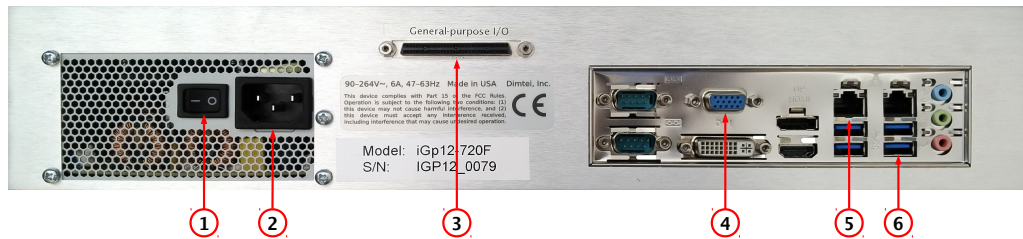

Figure 4: Rear panel features
6. Connect a USB keyboard (Fig. 4, item 4);
7. Connect a video monitor (Fig. 4, item 5);
Setup program is included in the IOC for configuring the important features of the iGp12-372F. The program can be executed locally or remotely. For local execution one must first connect a keyboard (Fig. 4, item 4) and a video monitor (Fig. 4, item 5) to the system. For remote setup, use `ssh` after system bootup to establish connection. In both setup methods the user must login as `root` (initial password is supplied with the system). If the newly received iGp12-372F must be configured remotely (when, for example, a keyboard or a monitor is not available), such configuration can be performed using a